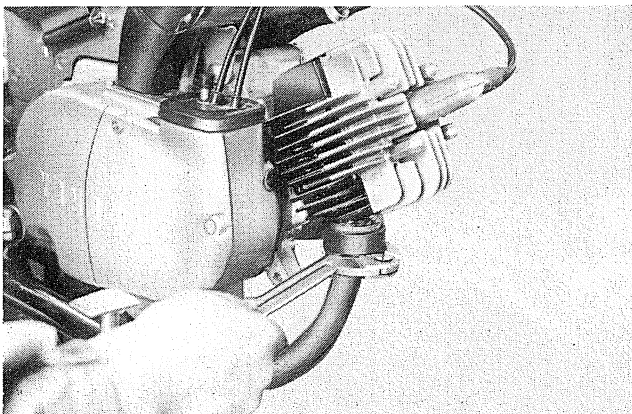

Fig. 3-1-2
2. Remove the exhaust pipe. (Fig. 3-1-2 and 3)